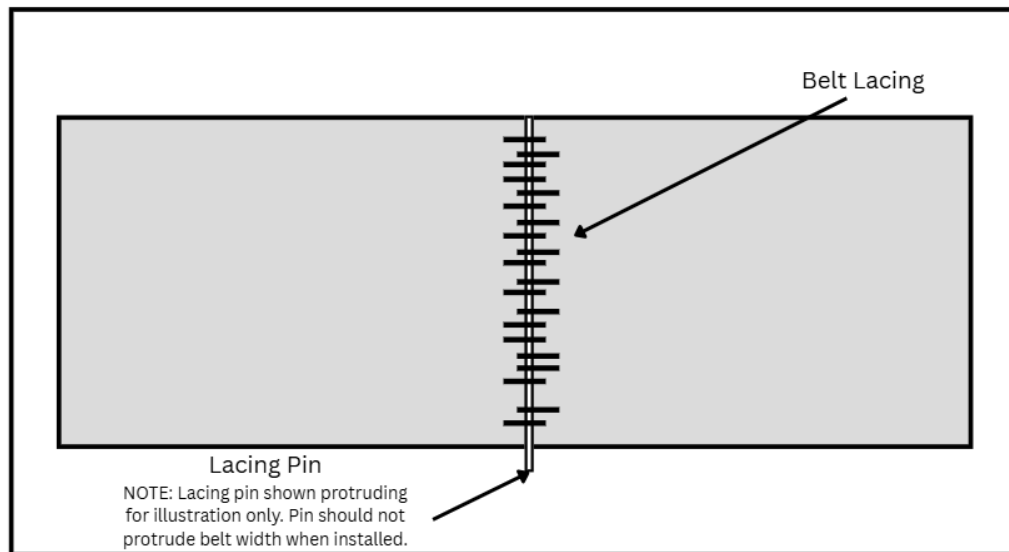

Figure 2.7 – Pin and Lacing Belt Installation
- Bring the ends of the belt together, align the lacing, and insert the lacing pin to connect the belt. See *Figure 2.7*. For longer and heavier belts that are harder to install, a belt puller tool can be used to help bring the belt ends together.